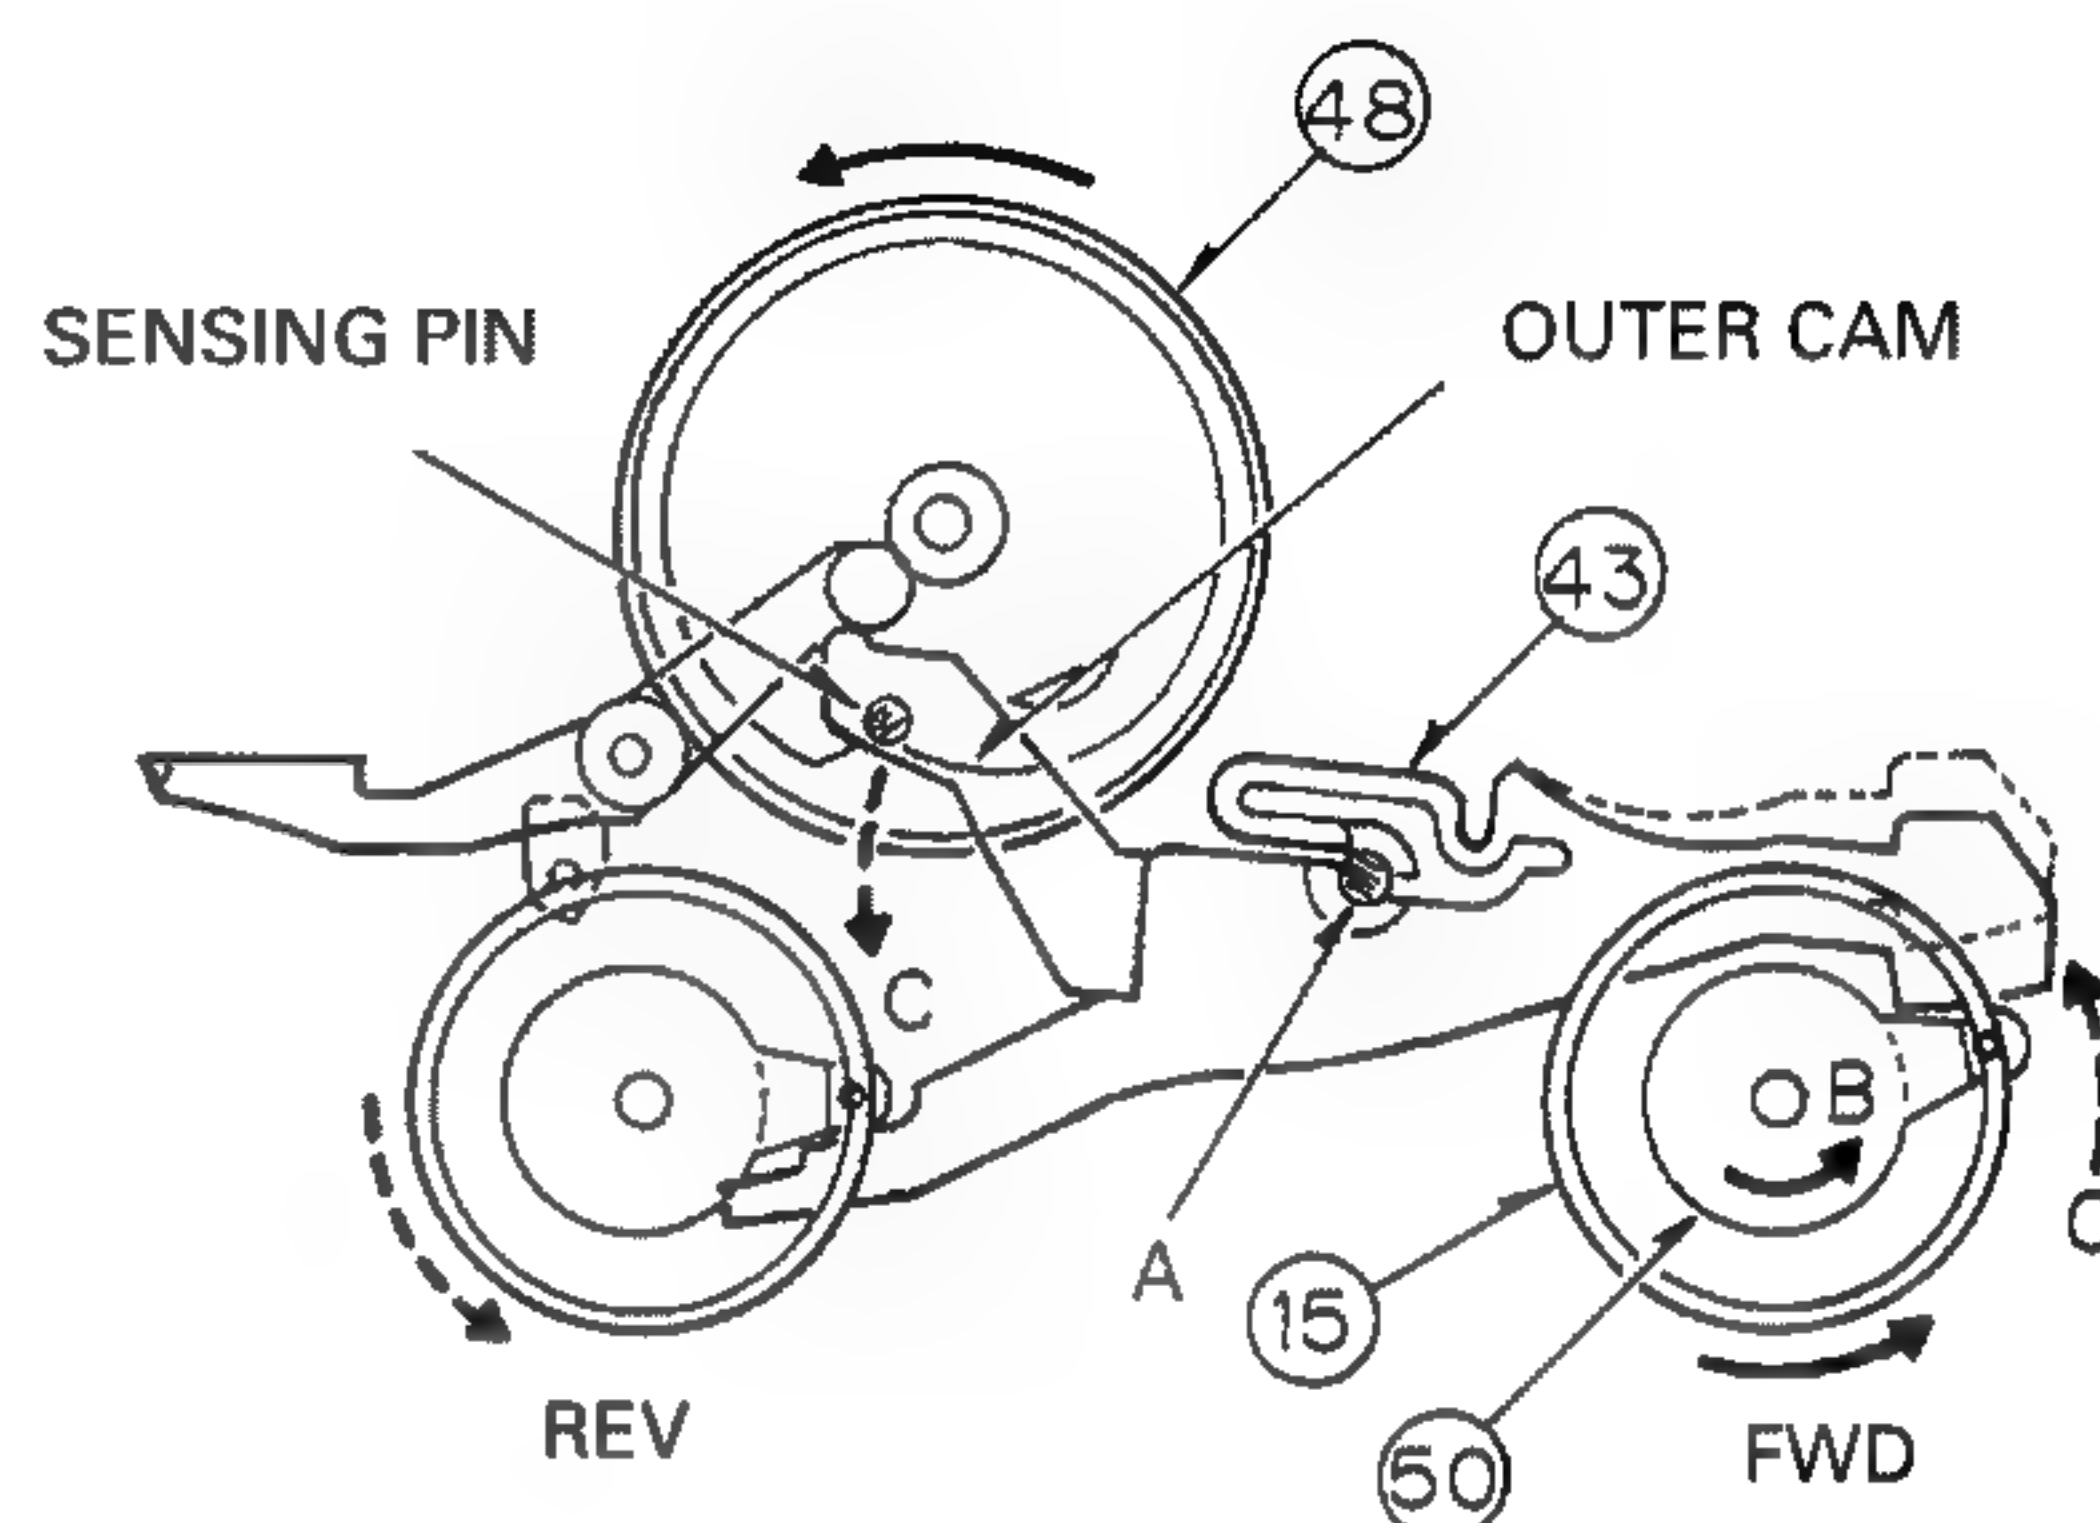

Fig. 3
- (1) The Detector Cam Assy ⑤① generates rotational power in the direction B as shown by an arrow in the Fig.3 as the Reel Spindle Assy (D) ①⑤ rotates.
- (2) The Sensor Arm ④③ turns as shown by the arrows C in the Fig. 3, on the fulcrum A by the rotational force of the Detector Cam Assy ⑤①.
- (3) The Detector Gear ④⑧ always rotates. The sensing pin of the Sensor Arm ④③ moves along the outer cam.
- (4) When the Reel Spindle Assy (D) ①⑤ stops (or tape rewinding is completed), the Detector Cam Assy ⑤① also stops.
- (5) When the Detector Cam Assy ⑤① stops, the Sensor Arm ④③ also stops turning in the direction C (Fig.3), and stands still.